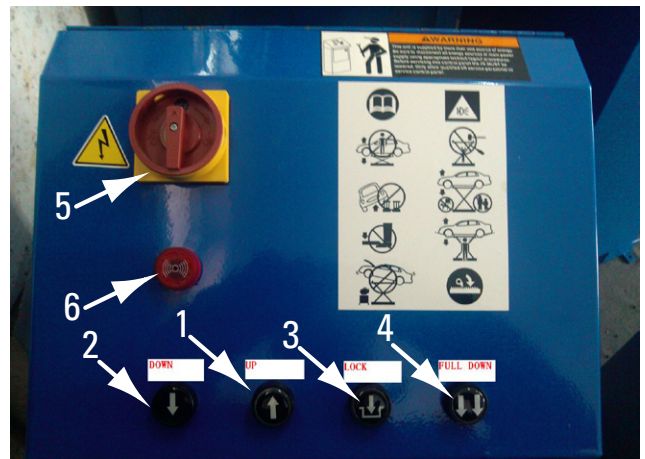
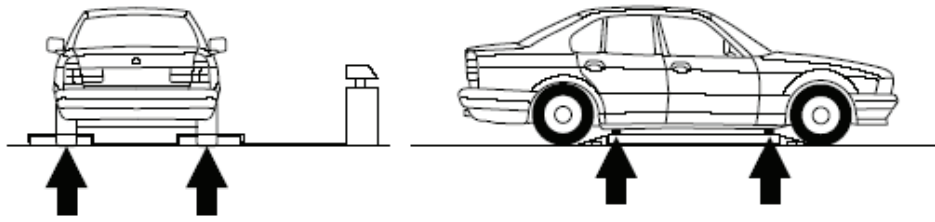

Fig. 4
Fig. 7
The unit is made of a metallic box containing oil tank, pump-motor assembly, electro-valve assembly and electrical and hydraulic supply connections. Low-voltage controls (24V) are placed on the power unit. they are the following (Fig 4):
- **ANTI-SHEARING SAFETY:** The lift is equipped with a device that stops its lowering phase at 1,2dm from the floor. To restart and close the lift, release the lowering button (2) (Fig. 4), and repress the lowering button along with the full lower button. During the lowering phase, the device will produce a warning acoustic signal (beep).
- **MASTER SWITCH:** The master switch (4) (Fig. 4). It deactivates all functions. Padlock the switch to prevent unauthorized personnel from using the lift.
- **EMERGENCY STOP:** By rotating the master switch button (6) (Fig. 4), power supply to the lift is cut off and all functions are disconnected.
- **Driving Sequence:** Be sure the platforms are fully closed before getting on/off the lift. **Get in the vehicle and drive on the lift; be sure the vehicle is centered and both rear and front wheels are properly positioned, place the proper rubber pads on the platform (Fig. 7) so that they are in line with the lifting points specified by the manufacturer.** Press the "lifting" button, keep it pressed until the required height is reached. To lower the lift, press the "lowering" button (Fig. 4, pos.2). During the latest lowering phase with the full lower button "lowering in the dangerous area" the lift will produce a safety acoustic signal. **During the first hours of operation cracking noises could occur. This is due to the natural settlement of mechanical parts and will disappear during the following hours of operation.**